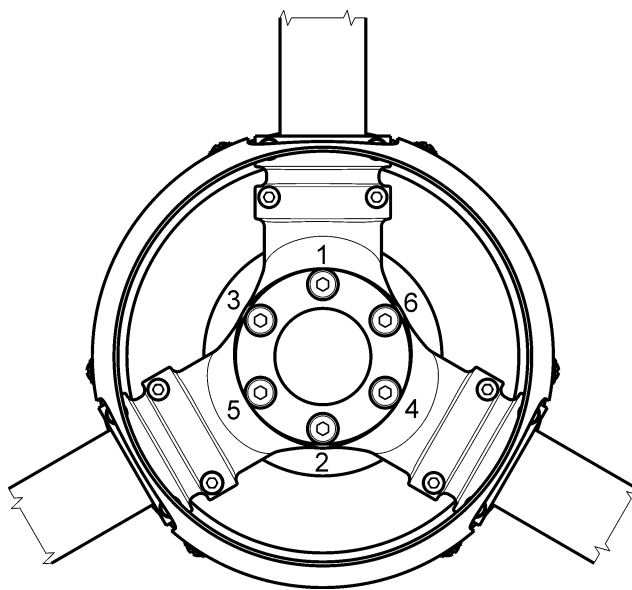
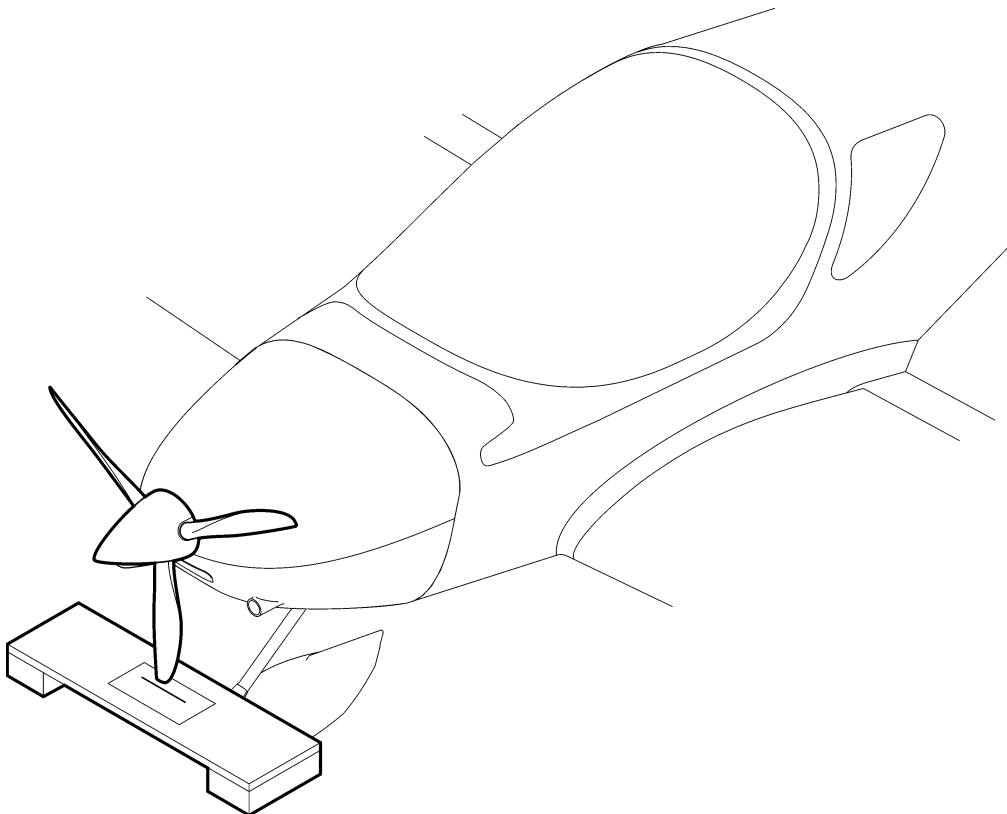
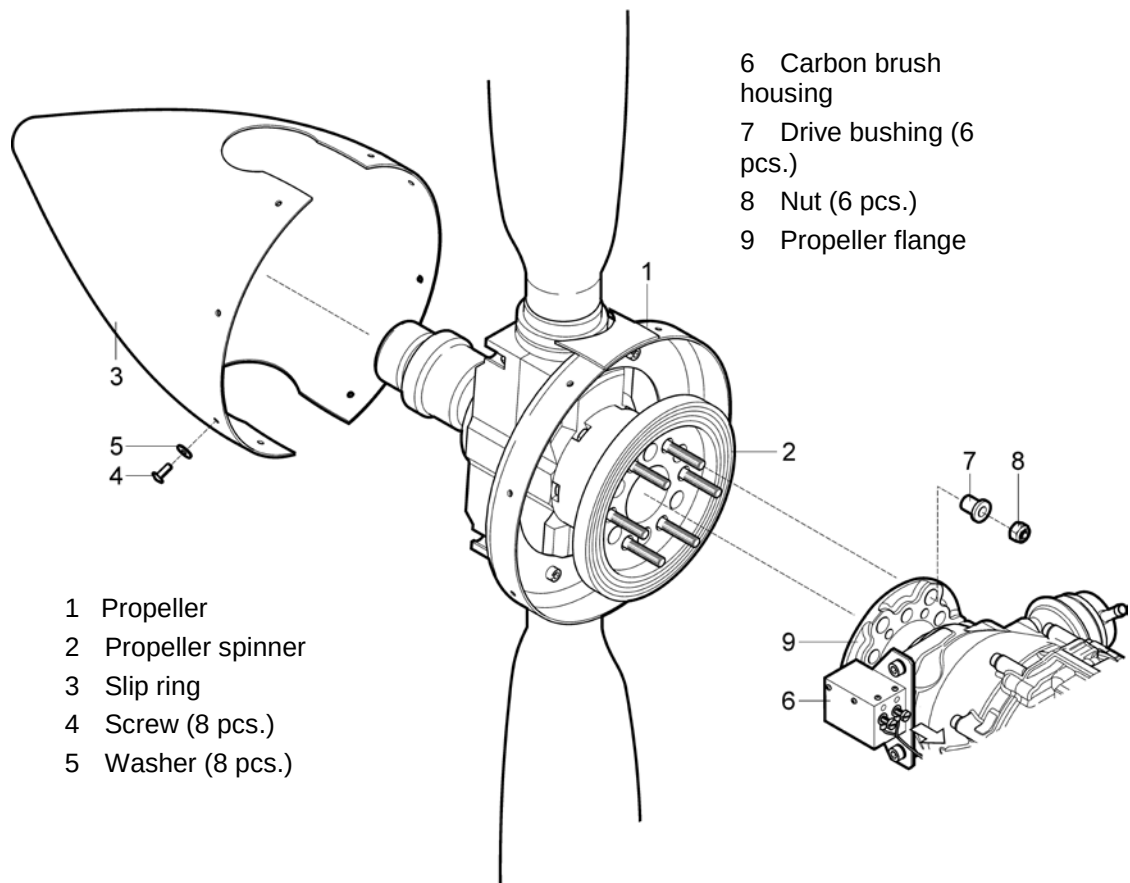
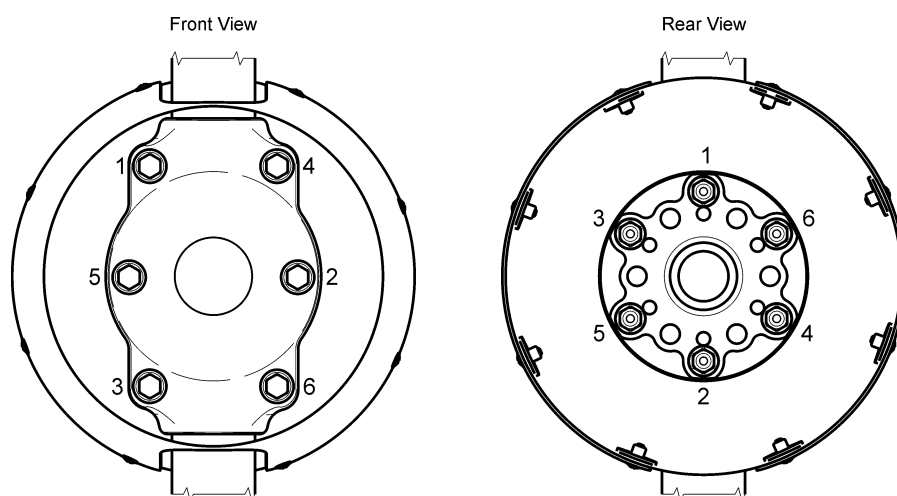

Fig. 10-13: Bolt tightening sequence
Fig. 10-14: Check of axial propeller running-out
Fig. 10-15: SR 3000 propeller removal / installation
Fig. 10-18: Bolt tightening sequence
- Attach the propeller (1) and the spinner flange (9) to the spacer (3) on the engine flange (6) by means of the bolts (7) with washers (10).
- Tighten the bolts (7) using a star pattern (Fig.10-13) with torque 22 Nm (16.2 ft.lb.), and measure the difference in distance of individual blade tips from marking (see Fig. 10-14).
- (b) As necessary, unscrew the screws (4, Fig. 10-15) with the washers (5) and remove the propeller spinner (3).
- (c) Unscrew and remove the nuts (8) and take out the propeller from the propeller flange (9).
- (b) Check the contacting areas of the propeller flange (9, Fig. 10-15) and the propeller. Clear of all impurities.
- (d) Loosen the screws of the carbon brush housing flange and shift the carbon brush housing (6) to its rear position.
- (e) Gently push the propeller (1) to the propeller flange (9) by hand and screw the nuts (8).
- (g) Tighten the nuts (7) using a star pattern (see Fig.10-13) with torque 22 Nm (16.2 ft.lb.).
- (i) As necessary, put the propeller spinner (3, Fig. 10-15) on the propeller and attach it with bolts (4) with washers (5).
- Place the spinner flange (12), the hub mount half (1) and spacer (14) on the engine propeller flange (11) (vertical orientation of the hub is recommended).
- Insert drive bushings (15) through the back face of the propeller flange and into the hub mount half (1). Check for proper bushing and pilot stub fit into the hub mount half. The hub must sit flush on the mounting flange.
- Place washers (8) on bolts (10) and insert into the mounting holes inside the hub mount half (1). Place lock washers (8) and nuts (9) on the bolt and tighten the bolts using a star pattern with torque 22 Nm (16.2 ft.lb) (see Fig. 10-18).
- (h) Place the hub cover half (2) over the blades. Place washers (8) on bolts (7) and insert into the hub cover half (2). Hands tighten the bolts (7) into the threaded clamp bushings, taking care to maintain an even gap between hub halves on all sides. Grasp each blade shank and firmly pull outwards to seat each blade in the hub.
- (j) Using a torque wrench and rotating from bolt to bolt, tighten the bolts the bolts using a star pattern with torque 22 Nm (16.2 ft.lb.) (see Fig. 10-18), Check the blade pitch setting for rotation away from your desired pitch setting. Once properly torqued, a small gap may remain between hub halves. Check the propeller blades for track (see Fig. 10-14). The blades should track within 1/8" (3.175 mm) of each other at the tip. Setting the pitch accurately is more important than track from blade to blade.